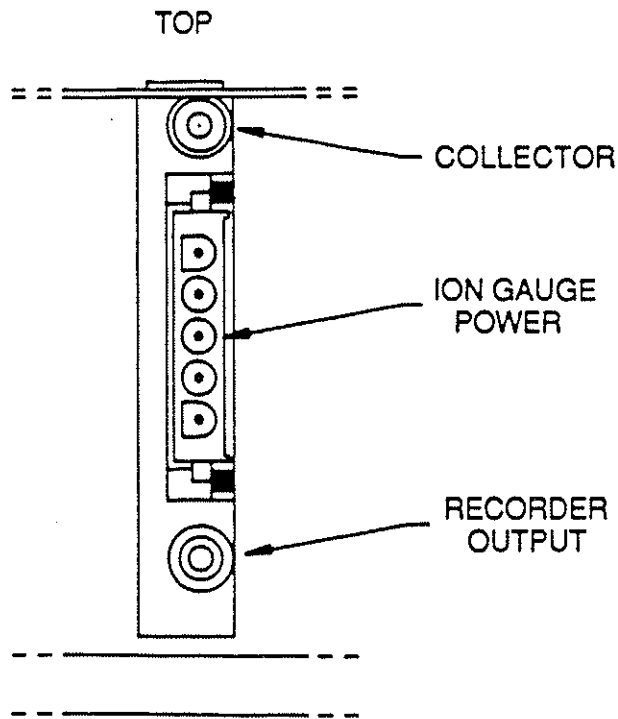

Figure 3. Card Connections
- Cable Length: Standard cables with lengths of 10, 25, 50, 75, and 100 feet are available from stock. Non-standard length cables (up to 500 feet) are available on special order (see Table 1). Connections are made at the rear of the card as shown in Figure 3.